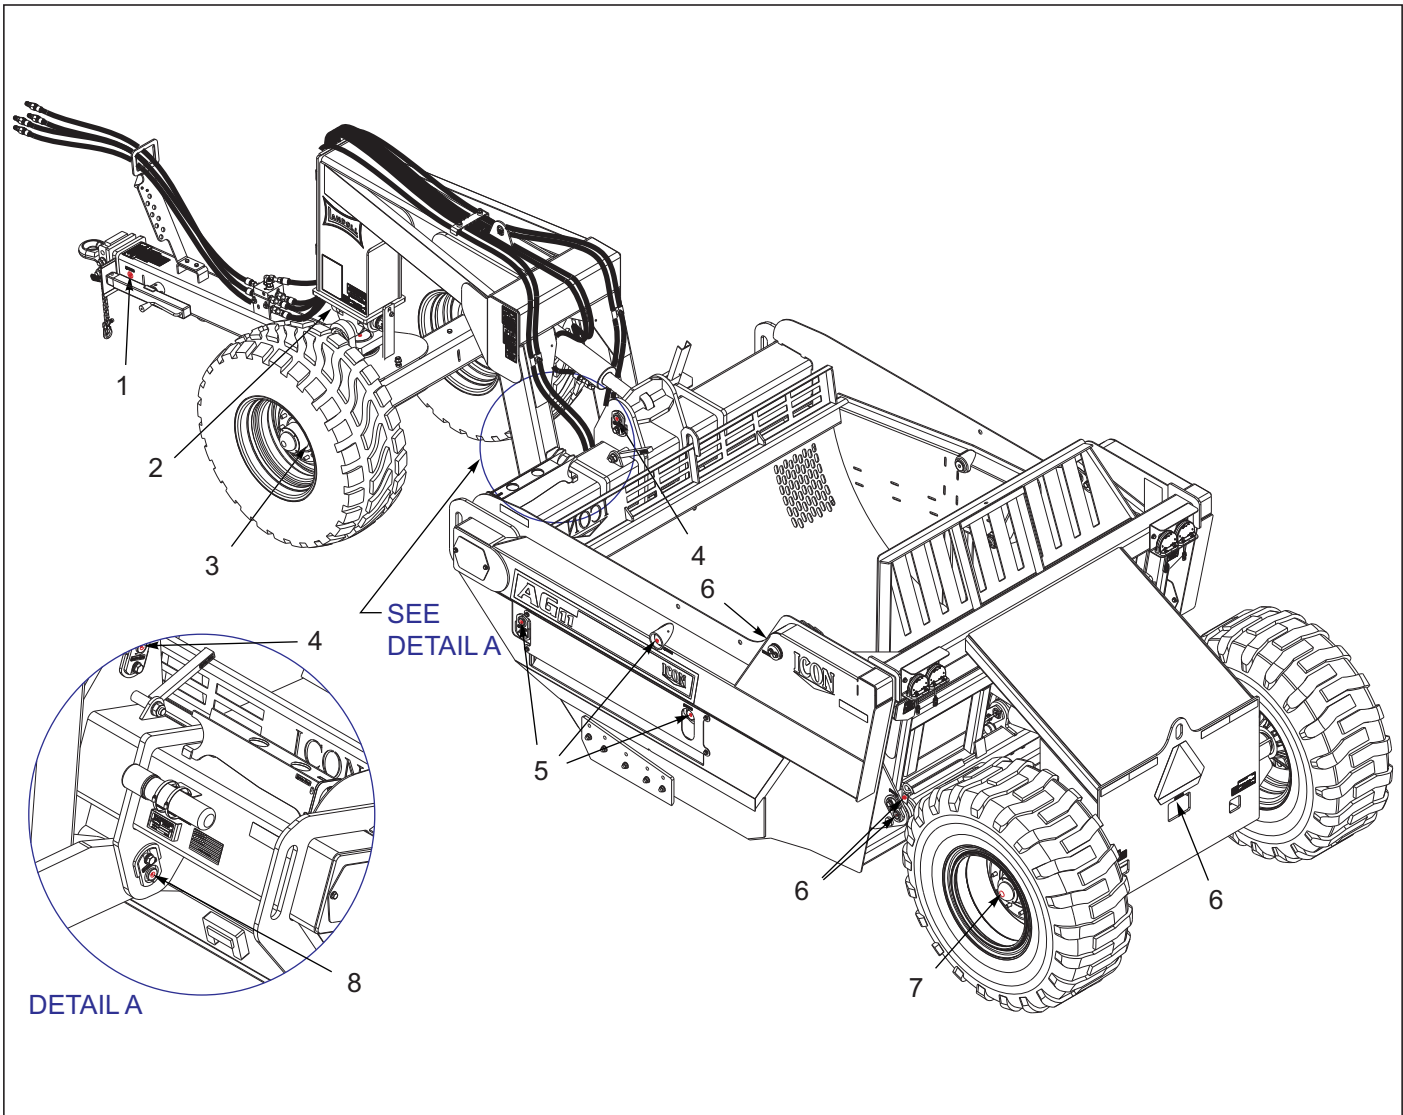

Figure 3-1: Lubrication Schedule
1. **Table 3-1** specifies the number and the period of lubrication points on the AG11/AG13 Scraper. Proper maintenance of your machine will, under normal operating conditions, help to keep it operating at or near its peak performance for an extended period of time. Proper maintenance is also a condition of keeping your warranty in good status **See Figure 3-1**.
5. Lubricate the machine as shown in **"Lubrication Schedule"** on page 3-2, **See Figure 3-1**